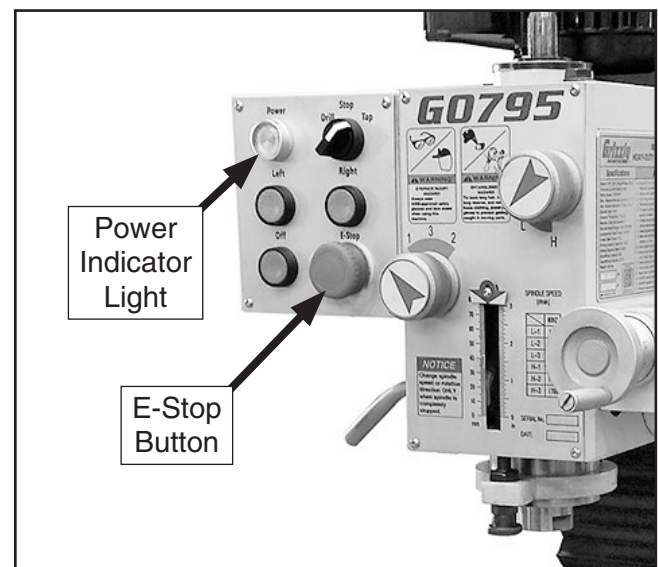

Figure 12. Location of power indicator light and E-Stop button.
2. Press E-Stop button (see **Figure 12**). This will help prevent unexpected startup when machine is connected to power.
3. Connect machine to power supply, and press Power button (see **Figure 12**). Power indicator light should turn **ON**.